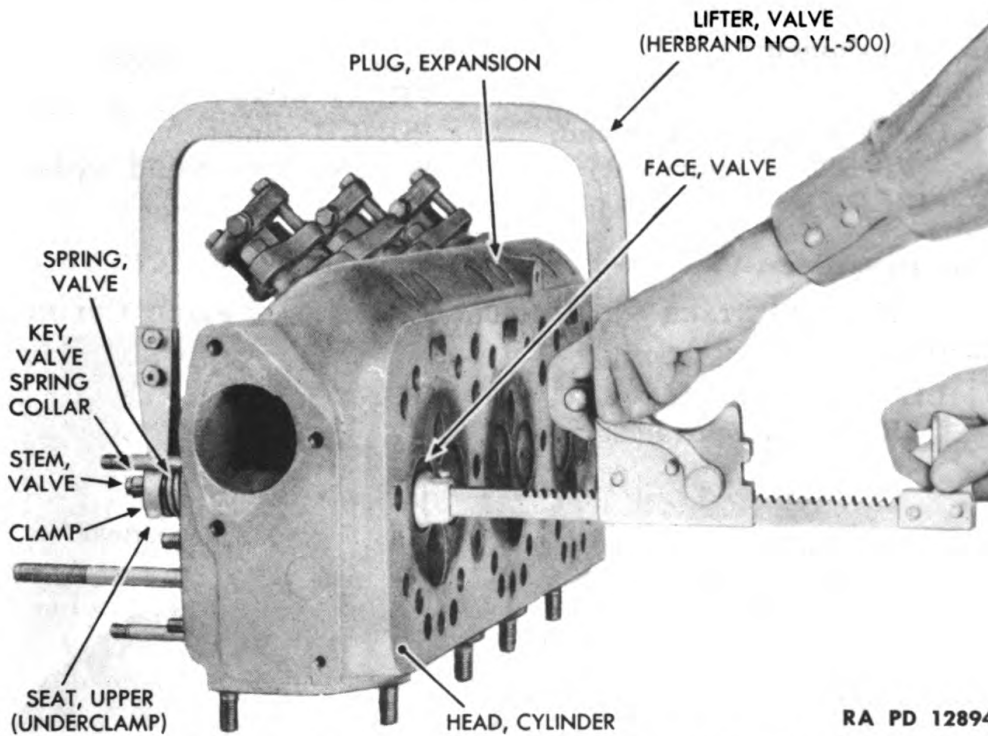

Figure 70—Compressing Valve Springs with Valve Lifter
(1) REMOVE INTAKE AND EXHAUST VALVES FROM FRONT CYLINDER HEAD (figs. 70 and 71).